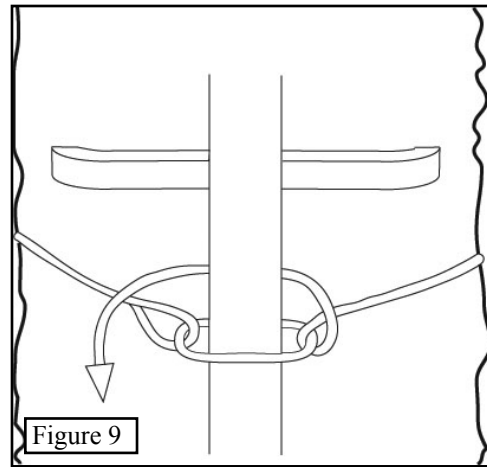

Figure 9
**Step 5.** Bring the rope back around to the other side and loop it around the pre attached rope end (See **Figure 9.**) Wrap the rope around itself several times so that the two sections of rope are pulled together tightly.